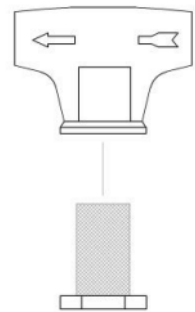

**Figure 8-1
- d. Remove descaling port cap (see Figure 8-1).